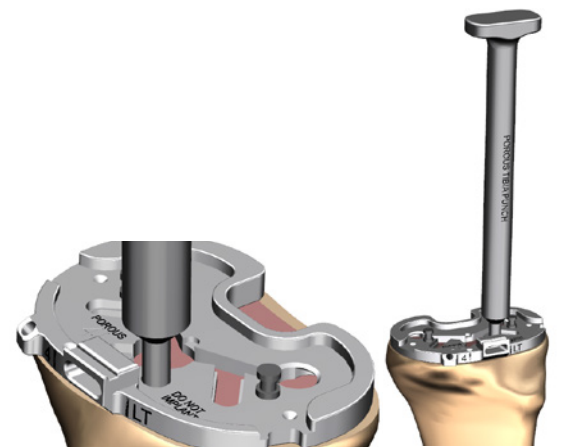

Figure 48
- 2 Impact the porous tibia punch into the anterolateral keel peg hole until a positive stop is achieved (Figure 48).